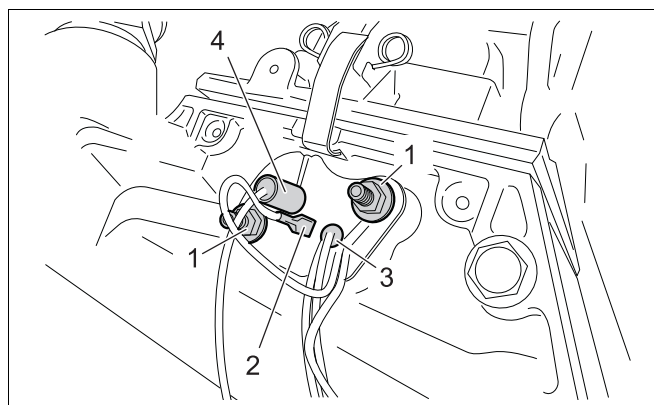

Fig. 43 Removing the hot surface ignitor and the ionization electrode
- Loosen the fastening nuts (fig. 43, pos. 1).
- Remove the earth cable (fig. 43, pos. 2).
- Pull the hot surface ignitor (fig. 43, pos. 3) and the ionization electrode (fig. 43, pos. 4) out of the heat exchanger.